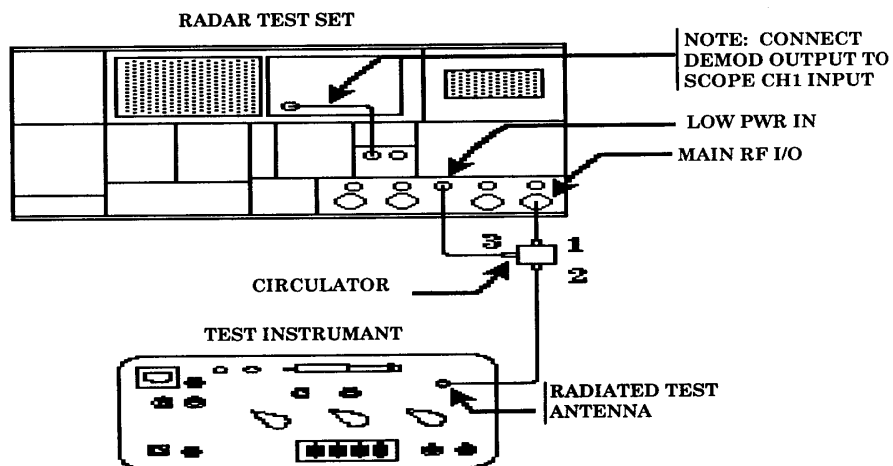

Figure 2. Receiver sensitivity - equipment setup.
- (1) Connect equipment as shown in figure 2.
(4) Replace cable from circulator at radar test set MAIN RF I/O (fig. 2) connector with peak power meter sensor.
(5) On radar test set menu 11, set **CW** to **ON** and measure and record output at MAIN RF I/O (fig. 2) connector in terms of dBm.
(6) Reconnect cable from CIRCULATOR (fig. 2) to radar test set MAIN RF I/O (fig. 2) connector. Disconnect cable from TI and connect to peak power meter sensor.
(7) Measure and record the power output in terms of dBm. The difference between this reading and the reading recorded in (4) above is the hookup loss for the system.
(8) Add the value obtained in (5) above to the reading recorded in (7) above. If result is not $-6 \text{ dBm} \pm 1 \text{ dB}$, perform **b** below.